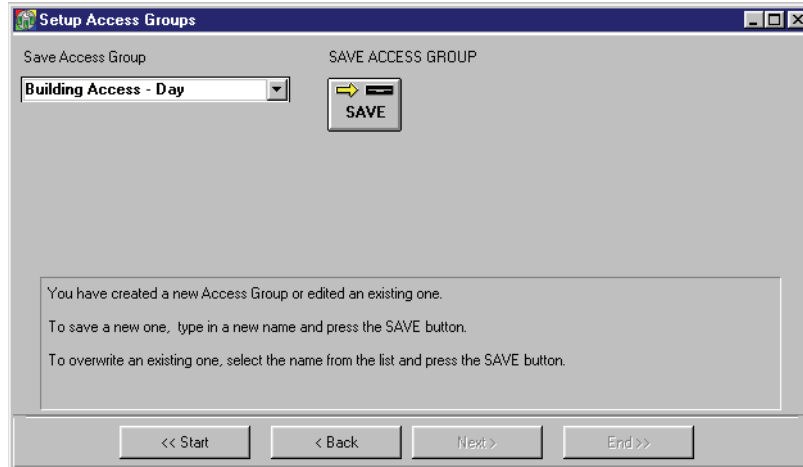

Figure 3-38: New Access Group Saved
14. Click in the “Save Access Group” field and type a descriptive name for this access group. For this example, type **Building Access - Day**. The window should look similar to Figure 3-38 on page 49 of this section.